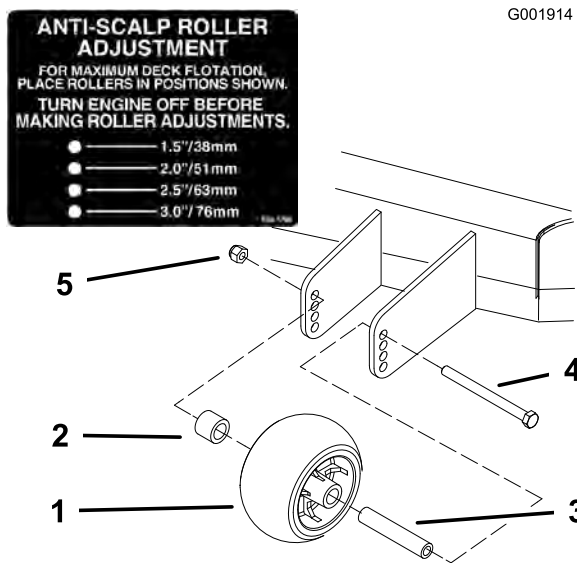
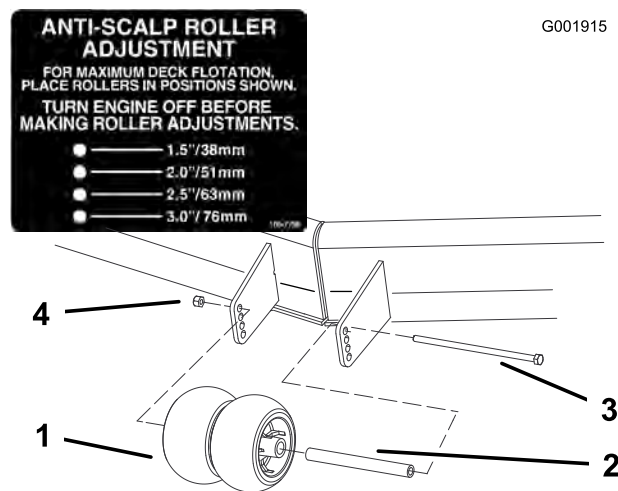

Figure 19
Figure 20
- After adjusting the height-of-cut, adjust the rollers by removing the flange nut, bushing, spacer, and bolt (Figure 19 , Figure 20 and Figure 46).
Note: The two middle rollers will not have a spacer (Figure 20).
- Install the flange nut bushing, spacer, and bolt. Torque to 40-45 ft-lb (54-61 N-m) (Figure 19 , Figure 20 and Figure 46).